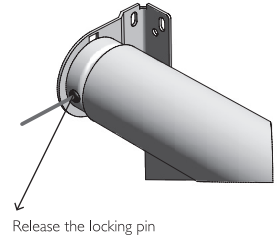

Fig. 5
5. When the blind is fully secure in both brackets, gently release the locking pin (Fig. 5. Release the pin) (Do not pull pin all the way out).